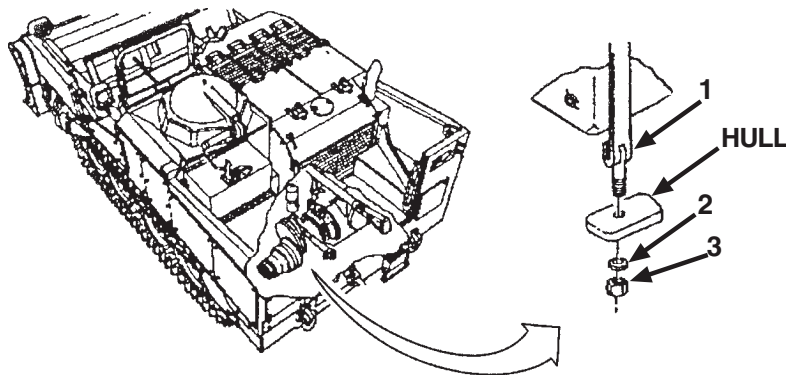

Figure 68. Rear Fuel Tank Strap.
Step 1 applies to Figure 68.
1. Remove locknut (item 3), washer (item 2), and rear fuel tank strap (item 1) from hull.